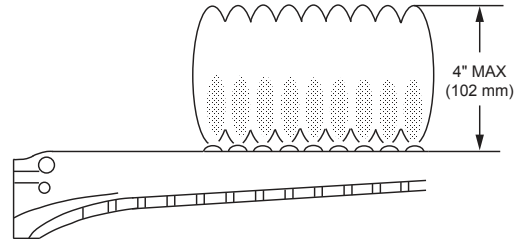
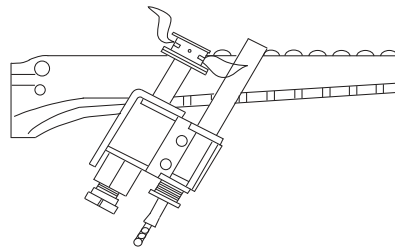

Figure 69. Main Burner Flame
Figure 70. Millivolt Pilot Burner Flame
4. Make visual check of the burner and pilot flames. Yellow flame means restriction of the air openings. Lifting or blowing flame indicates high gas pressure. Low flame means low gas pressure. Should the latter occur, shut the heater off and contact your gas supplier or qualified service agency. See **Figure 69** and **Figure 70**.